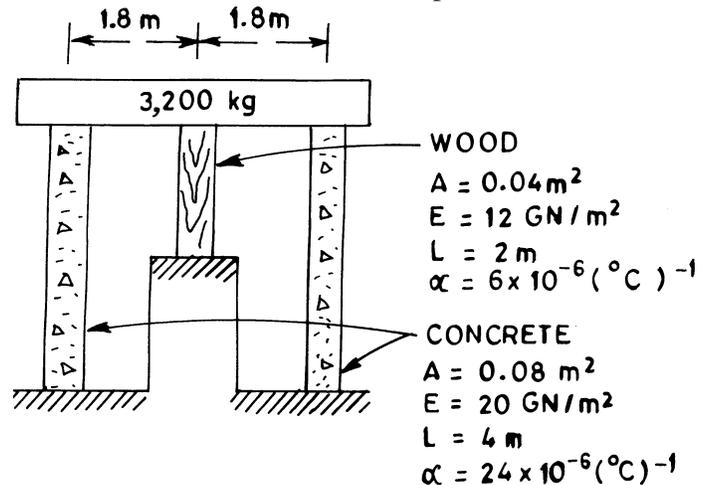

Fig. 7
9. A rigid floor slab with mass of $3,200 \text{ kg}$ rests on three columns as shown in Fig. 7. What is the compressive stress in each of the members (a) at installation and (b) after a temperature decrease of 20°C ?